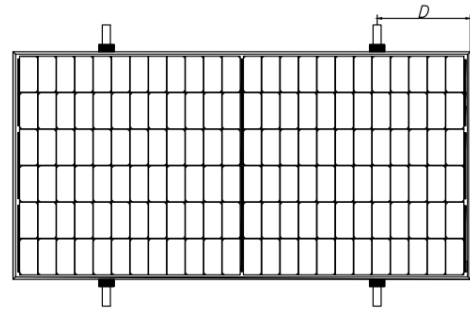
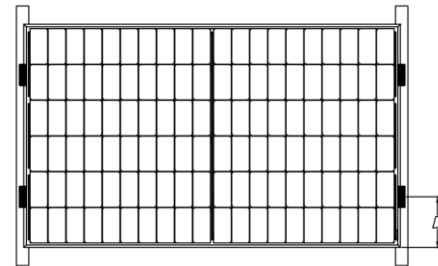
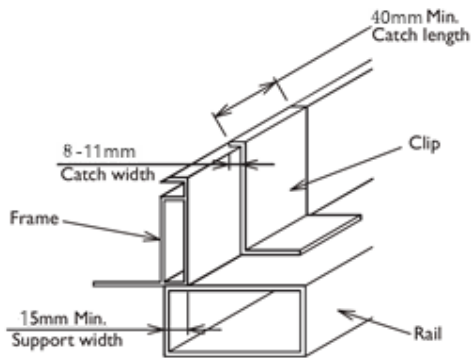

Fig. 8 Rails overlapping the long-side frame
Fig. 9 Rails overlapping the short-side frame
Figure 13 Mounting requirements for rails overlapping the short-side frame
Photovoltaic modules can be installed across the support frame (Fig. 8) or parallel to the frame of the photovoltaic module (Fig. 9). When using clamps to install, each module must be secured with a minimum of 4 clamps.
- ⑧ For the installation method shown in Fig. 9, the module needs to be fixed with professional clamps (as shown in Fig. 13), and the overlap between the C side of the module and the rail should be ≥ 15 mm. Chint's limited warranty will be void if improper clamps or improper installation is used.